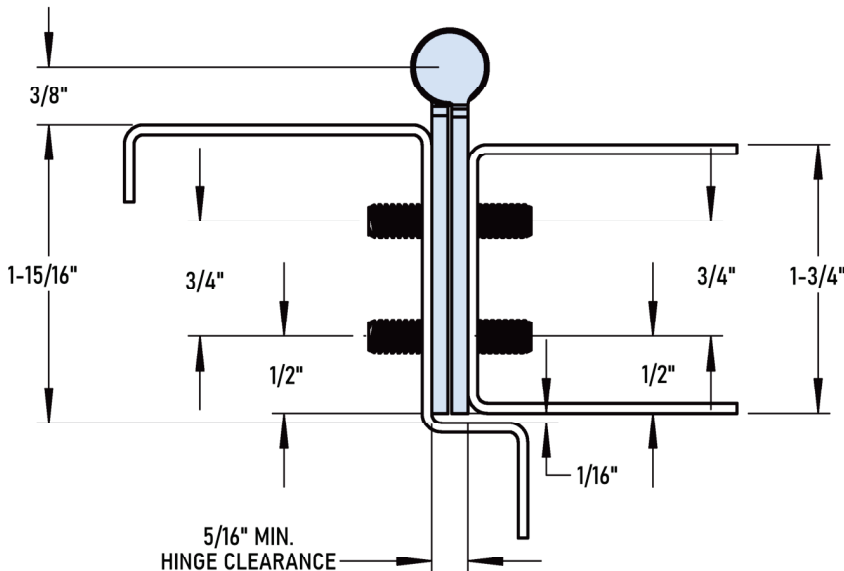

Fig. 2
B. Mark and center punch each hole on the door with the hinge held firmly in place (Fig.2). Remove the hinge from the door and prepare to drill the door.